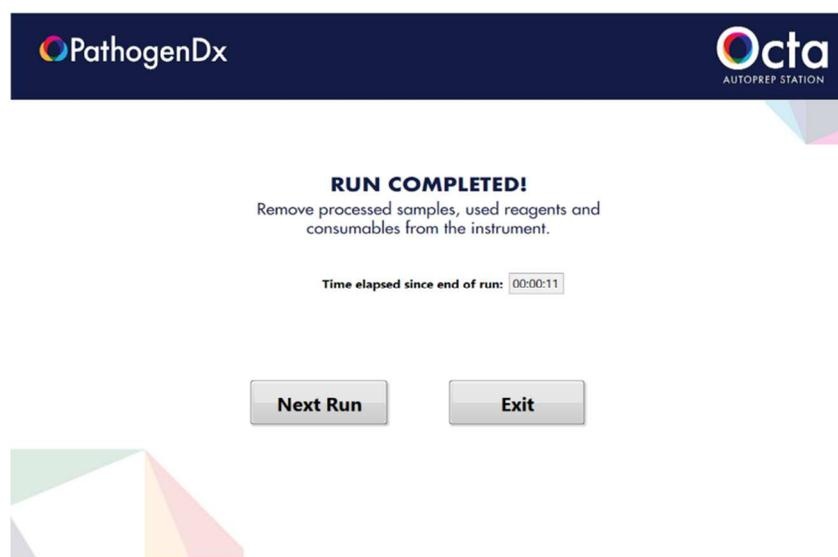

Figure 16: The Octa AutoPrep Station completed run screen
5. Once your first run is complete, the Octa AutoPrep Station will signal that the run is complete with a tone. A timer is initiated when the protocol ends so that the user knows how long their purified nucleic acids have been eluted into the Prefilled Reagent Plate, as shown in Figure 16.